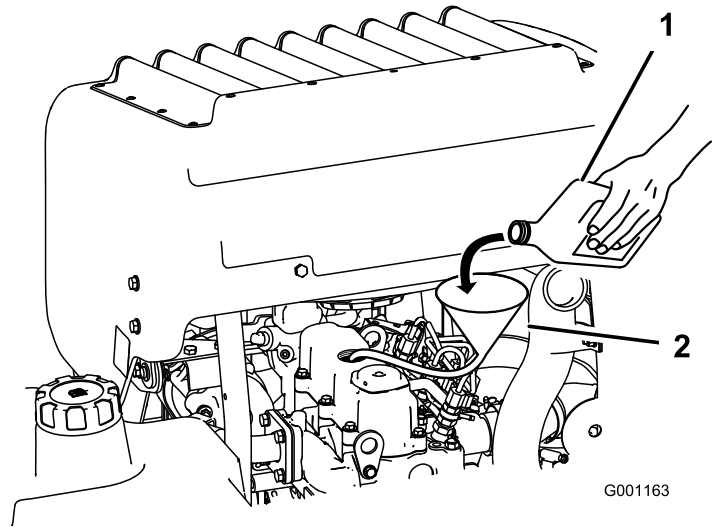

Figure 41
3. To add oil to the engine, locate and use a hose and funnel for adding oil (Figure 41).